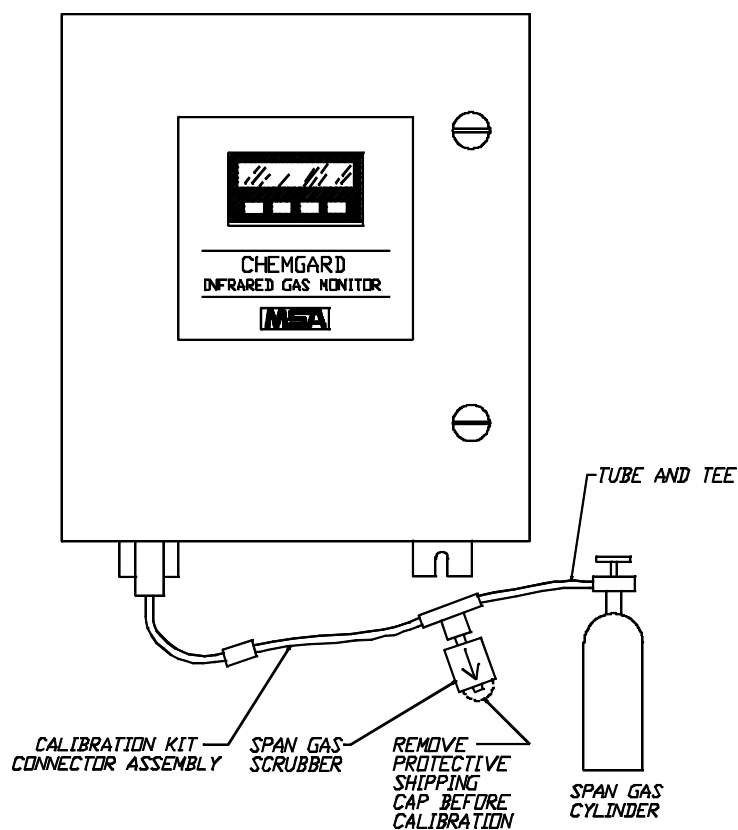

Figure 4-6.
**NOTE:** The span gas must be appropriate for monitor calibration. For many applications, a span gas cylinder of the gas of interest is available from MSA. If a span gas cylinder of the specific gas is not available, MSA has determined an appropriate synthetic span gas. See TABLE 4-1 for calibration cylinders available from MSA. If a synthetic span gas is used, refer to the calibration label on the inside of the monitor door (FIGURE 4-6).
- Set the unit to the value given on the "synthetic span" label shown in FIGURE 4-6.
- b. Accept (OK) or adjust ("ADJ") and enter a zero reading.
- d. Accept (OK) or adjust ("ADJ") and enter the correct span reading.